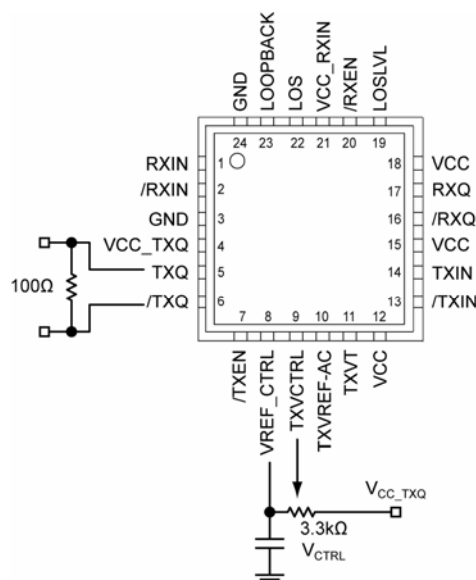

Figure 1b. Alternative Implementation
- Control of the transmitter output buffer swing can be obtained by using a variable resistor connected between  $V_{REF\_CTRL}$  and  $V_{CC\_TXQ}$  with a wiper connected to TXVCTRL as shown in Figure 1b